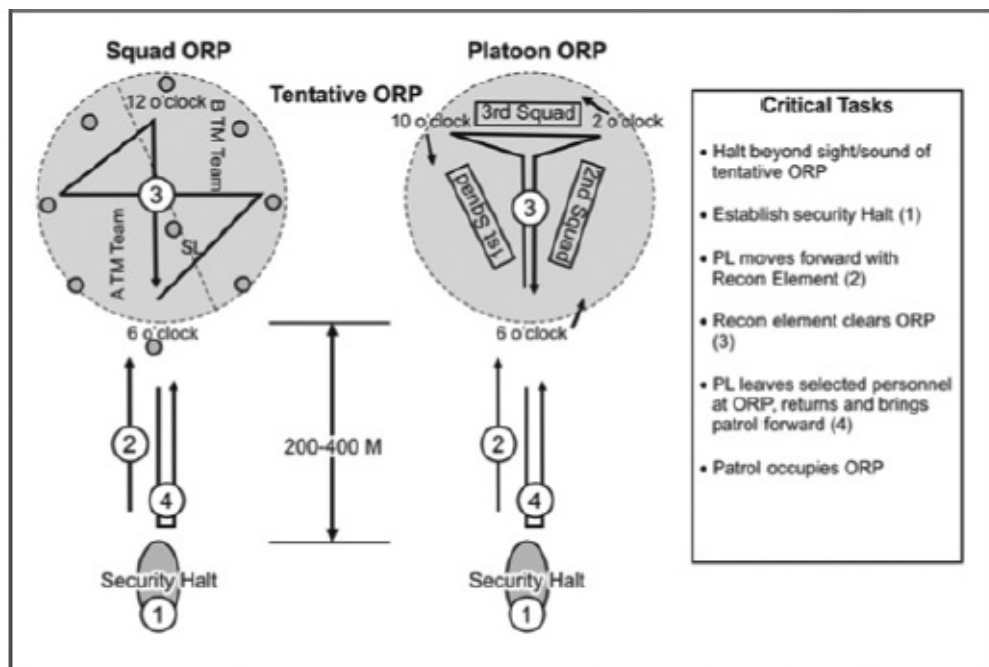

Figure 3-7. Occupation of the ORP
(1) **Occupation of the ORP.** See Figure 3-7.